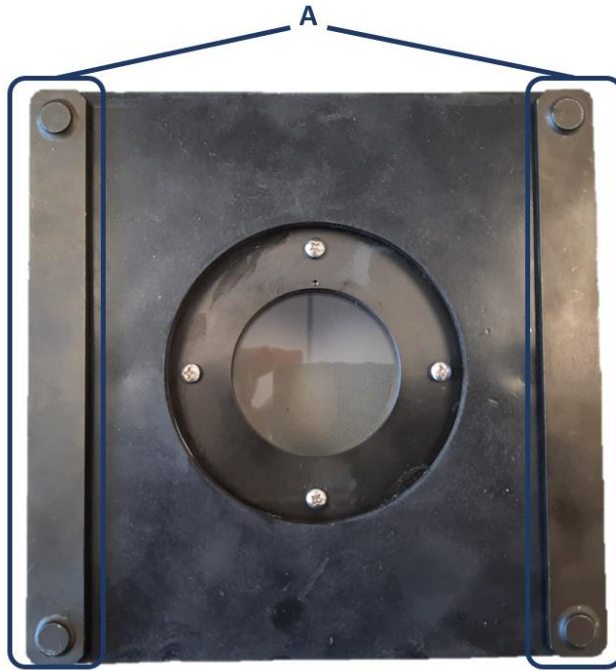

Figure 9: Duct Mount – rear view
- 2) Remove the detector plates, Figure 9, Item A.